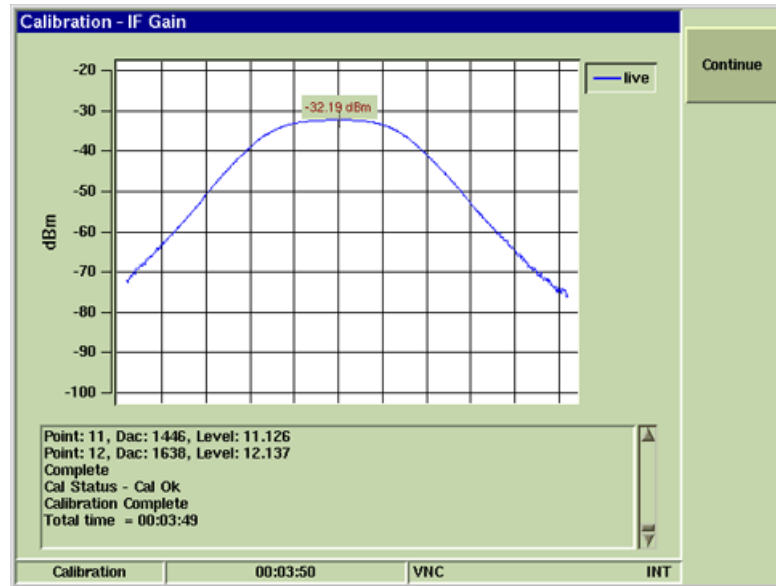

Fig. 4-18 IF Gain Main Cal Signal Trace
- When the Main Cal portion is complete, verify Calibration Complete is displayed in dialog box. Verify the signal trace on the Test Set resembles the signal trace as shown in Fig. 4-18.